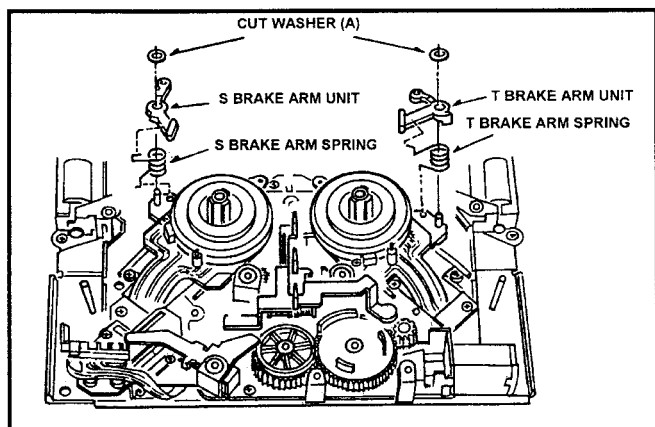

Fig. 6-6-1 Removal of S & T Brake Arm Unit
4. Remove the cut washers (A) and remove the supply and Take Up Brake Arm Unit as shown in Figure 6-6-1.
1. When install the new Brake Arm Unit first, hang on the Brake Arm Spring as shown in Figure 6-6-1.
3. Main Brake Torque confirmation is required (Refer to item 5-4).
4. Confirm that the Tension value on the Playback mode (Refer to item 5-16).